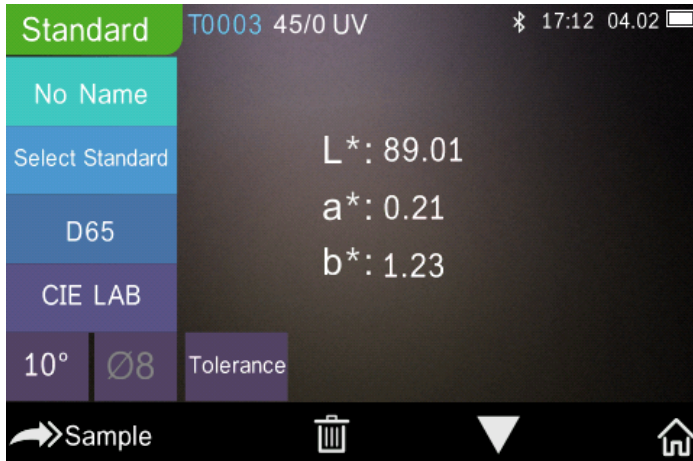
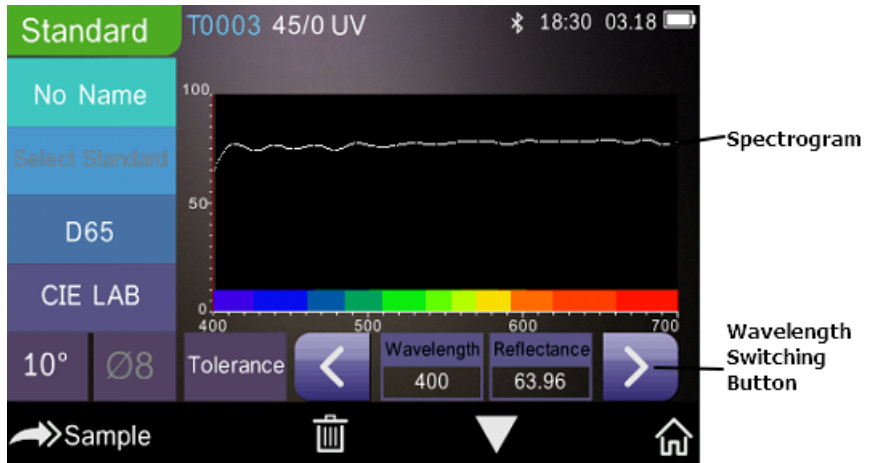

Figure 10 Standard Measurement
Figure 11 Reflectance of Standard Measurement
4. There is a “Beep” sound, and the LED indication light will turn to green from yellow, then it shows measurement finished as shown in Figure 10 and in Figure 11.
15) Wavelength switch button: As shown in Figure 11, click “” or “”, the wavelength and reflectance of the current sample will switch as range of 10nm interval.